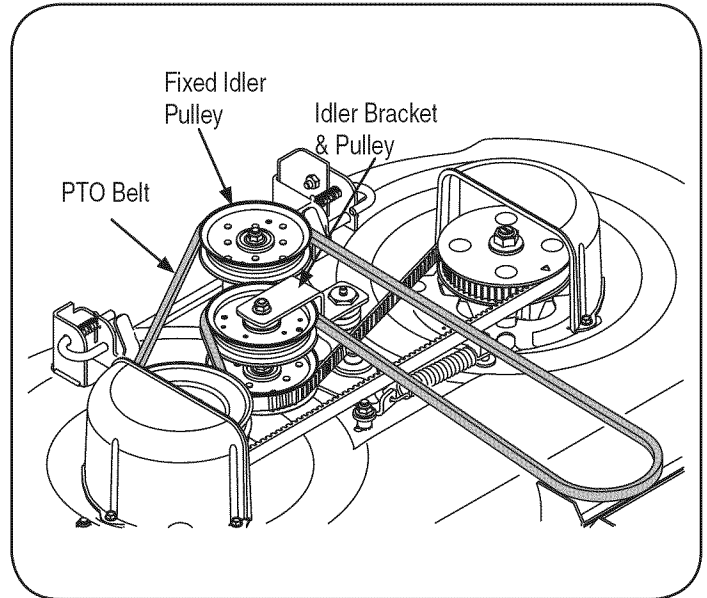

Figure 22
**NOTE:** It may be necessary to loosen the hex cap screw and flange lock nut securing the pulley to the idler bracket to fit the belt between the pulley and bracket. Slide the belt between the bottom of the idler pulley and top of the timing belt idler pulley below. See Figure 22.
- Loop the belt and push out of the V-groove of the drive pulley on the right hand spindle assembly. Lift the belt over the pulley and out from beneath the spindle cover. See Figure 22.
- Route the back side of the belt around idler pulley and between the idler pulley and idler bracket. Re-tighten the hex screw and flange lock nut if loosened earlier. Refer to Figure 22.
- Route the belt around the fixed idler pulley as shown in Figure 22 and re-install the deck as described in "Reinstalling the Cutting Deck" later in this section.